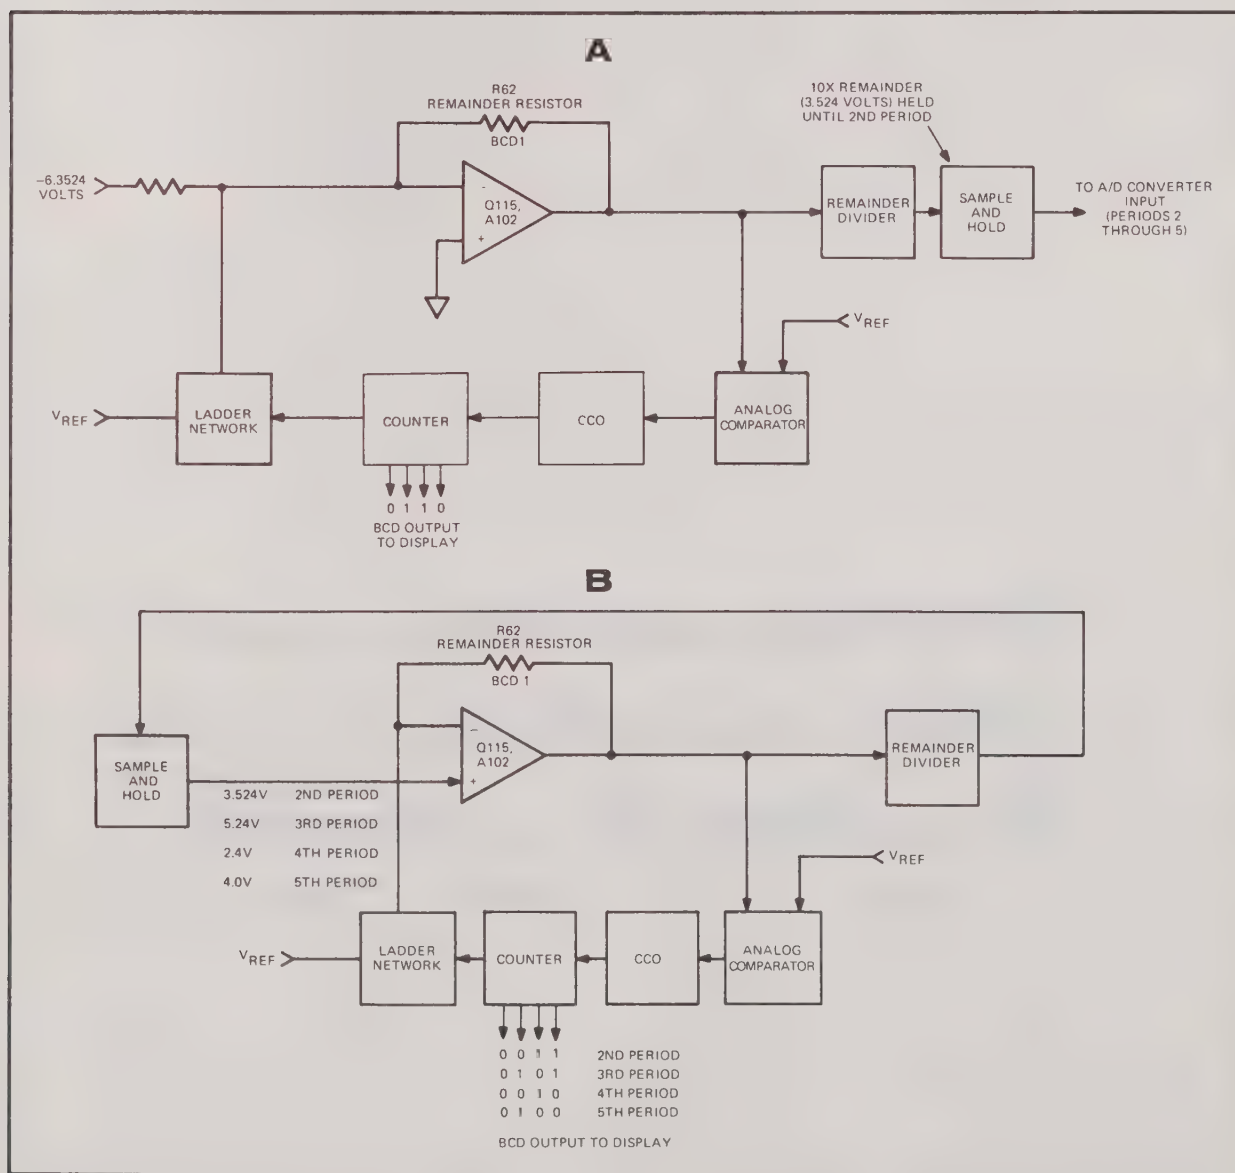

Figure 3-10. A/D CONVERTER CIRCUIT ARRANGEMENT FOR DIGITIZING AND DISPLAYING
3-30. The A/D converter has two basic operating modes. It is connected as an operational amplifier during the first period of the measurement cycle, and it is connected as a voltage follower during the remaining four periods of the measurement cycle. The simplified diagram of Figure 3-10(A) shows the circuit arrangement for measurement of the first digit (6) of a -6.3524 volt input. The amplifier is satisfied by two feedback loops. The loop consisting of